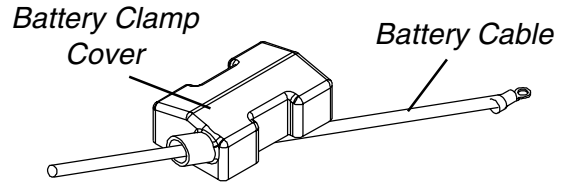

FIGURE 5 - CONNECTING BATTERY CABLES - BATTERY CLAMP METHOD
2. Install battery clamp covers onto battery cables as follows (FIGURE 5):
*NOTE: Only one (1) battery cable and battery clamp cover are shown for clarity. Both battery clamp covers install in the same manner.*